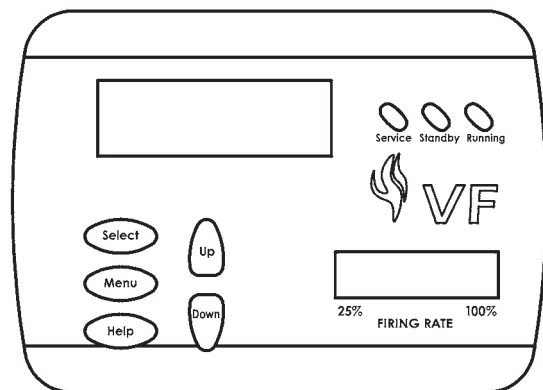

FIGURE 19. UIM, USER INTERFACE MODULE
- User Interface Module (UIM), see Figure 19.